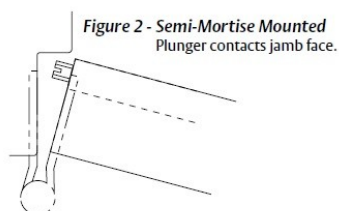

Figure 2 - Semi-Mortise Mounted
- For semi-mortise mounted installation, the plunger contacts the jamb face (as shown in Figure 2).